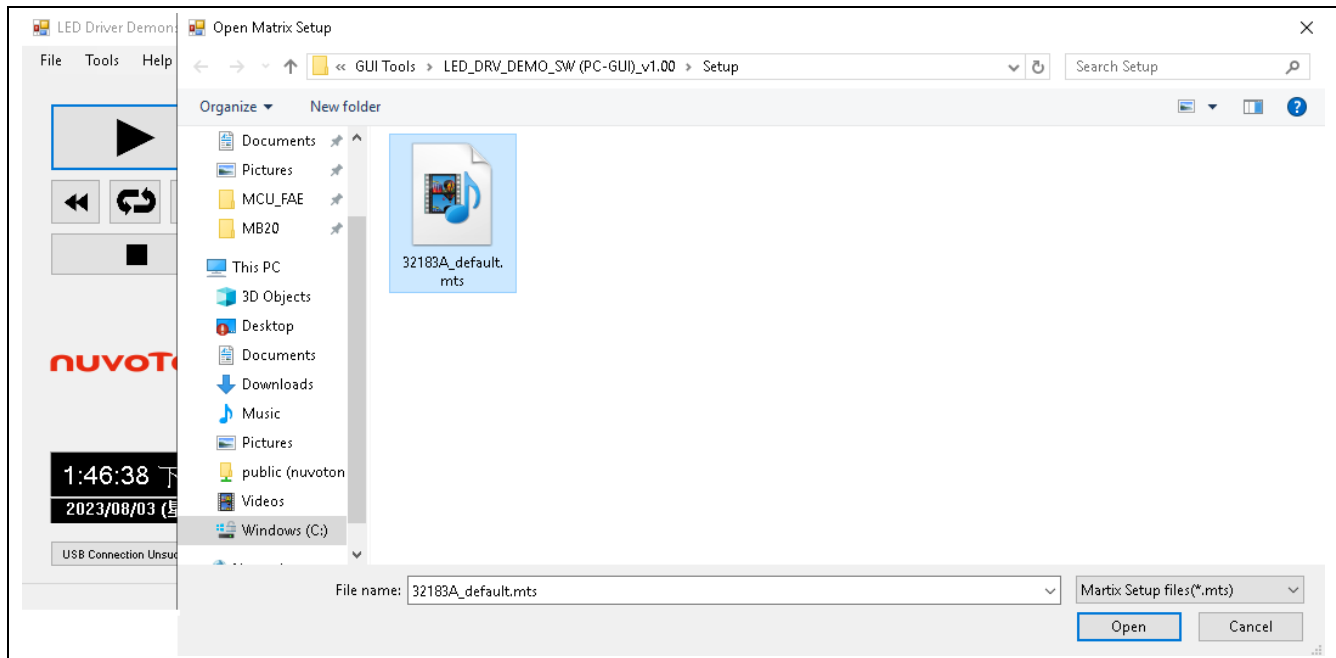

Figure 1-3 Use Default Matrix Setup File to Establish Default Settings
3. Use matrix setup file (*32183A_default.mts*) for KA32183A to establish default settings when you open the tool for the first time. The default setup file is saved on Setup folder, as shown in Figure 1-3.